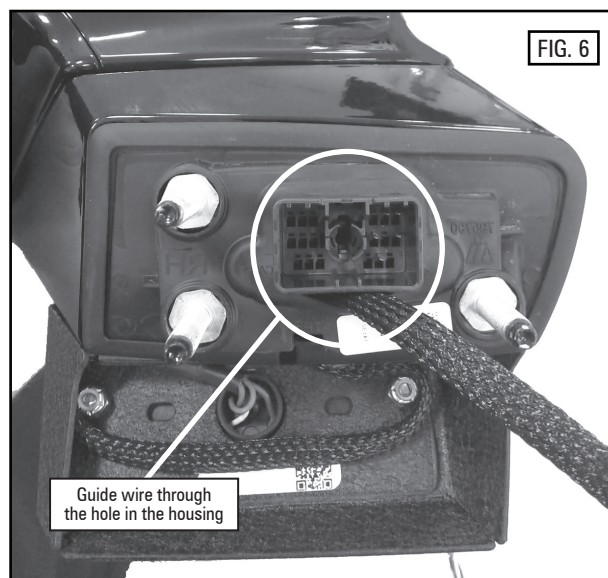

FIG. 7
6. Place the bracket in its final location, as seen in FIG. 7, and firmly press the bracket against the mirror while screwing the included screw into the well nut.
8. Leaving extra wire behind the bracket, attach the light to the bracket using the hardware included with the light. Fig. 7 shows pass through on inside of vehicle.